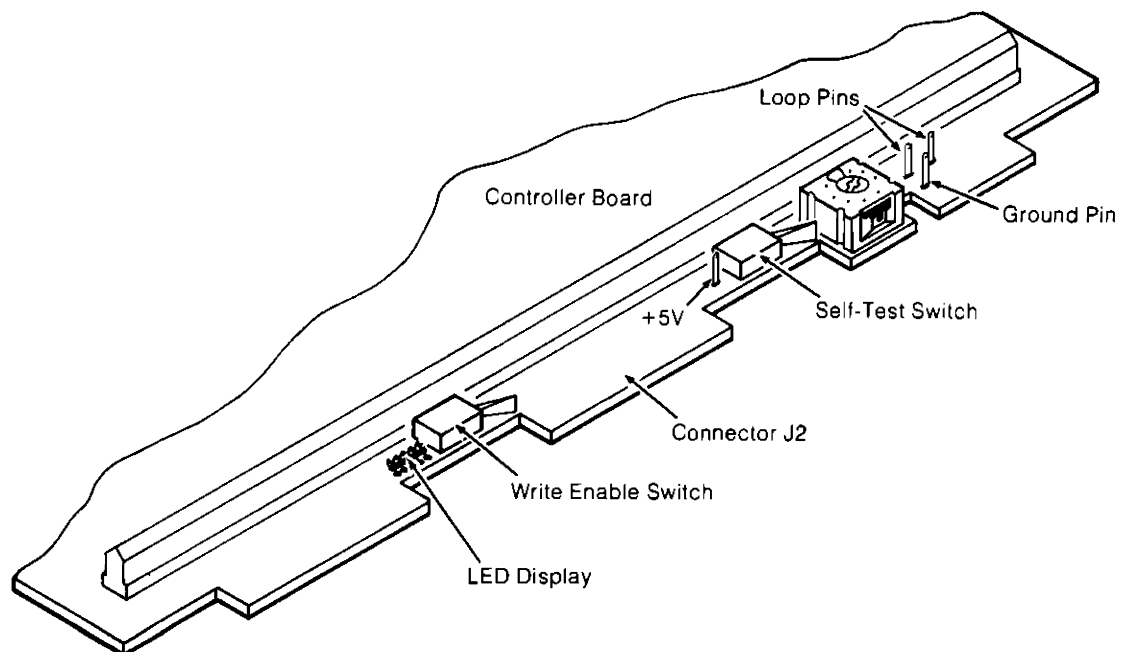

Figure 4-1. Self-Test Functions
In order to allow the disc drive to be self-tested without being connected to other devices, self-test input/output hardware was added to the front of the controller board. Figure 4-1 is a drawing of this area. The self-test switch is pressed to start the self-test routine. The read/write self-test switch is used to enable the read/write functions detailed in the next section. The loop pins are used to enable the repeat function detailed in the next section. The right-most LED indicates that the controller is busy doing self-test. The four left-most LED's display the number of the test being run. If the routine halts on any test, the LED display may be read as an error code (see Table 4-2).
Although the four digits displayed on the LEDs can narrow the problem down to a small area, there is much more information available. It can be read by the controller using the disc memory command set. It is also available at connector J2 (see Figure 4-1). The module is designed to fit on this connector and present this information as an LED display. To use the module, follow this procedure:
3. Locate connector J2 (Figure 4-1). Slide the module onto this connector, component side up.